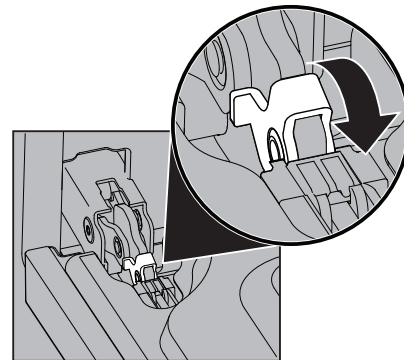

Figure 29: Door hinge lock
2. Pull up the lock located on each hinge support toward front of the oven until the lock stops. You may have to apply a little upward pressure on the lock to pull it up (Figure 29).
4. Push the door hinge locks up toward and into the oven frame on both left and right oven door hinges to the locked position (Figure 29).